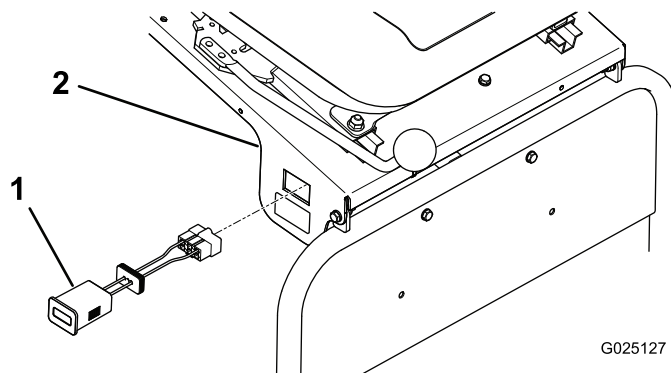

Figure 9
7. Install the wireless hour meter (Figure 9).